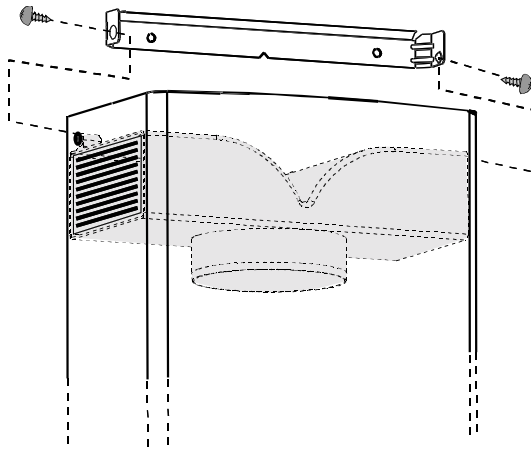

Fig. 7
- Place the chimney and fix it to the top chimney holder with the two screws (16) supplied.
- Lower the bottom part of the chimney and fasten it to the top of the hood with two screws (17), supplied.
**Note** that the top part of the chimney can be mounted with the side grids up or down. For use as a recirculation hood it must be mounted with the grids upwards. (Fig. 7).